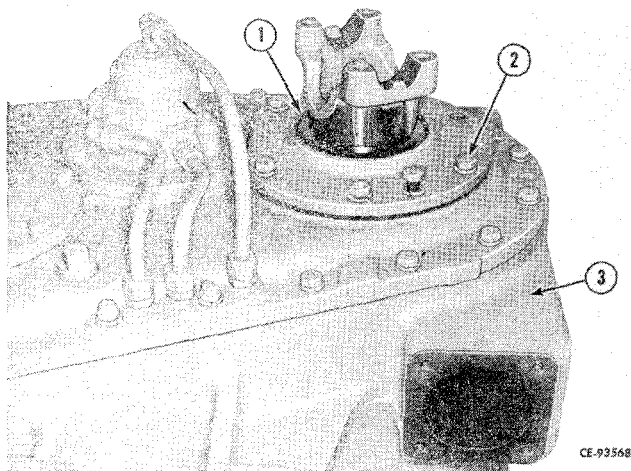

Figure 4-28
Remove the cap screws and lock washers (2, Fig. 4-28) that secure rear output cap and shaft assembly (1) to housing (3). Use cap screws in jack screw holes to remove assembly and sliding clutch.